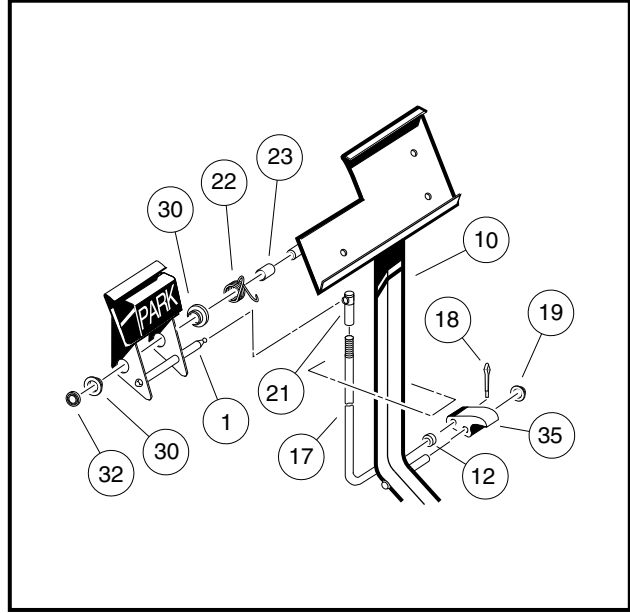
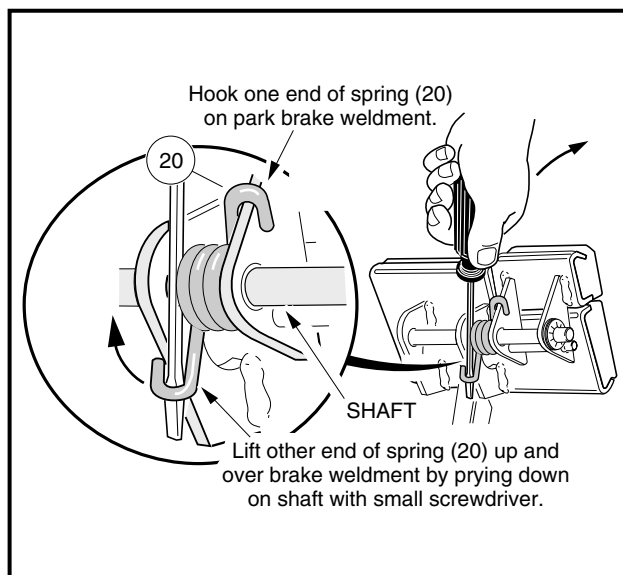

Figure 5-4 Park Brake Assembly
Figure 5-5 Torsion Spring Installation
NOTE: *New push nuts (19) and (32) must be used when reassembling the park brake (Figure 5-4, Page 5-6).*
- 3.2. To remove the park brake pedal (1), remove the push retainer nut (32), disconnect the torsion spring (22) (**Figure 5-4, Page 5-6**) and slide the pedal off of the shaft. **See preceding NOTE.**
1. From the bottom side of the floorboard, insert the park brake rod (17) through the brake pedal assembly opening as shown (**Figure 5-4, Page 5-6**). Then install the park brake pawl (35) onto the shaft on the brake pedal assembly (10) and also insert the park brake rod (17) into the park brake pawl.
2. Install the push nut (19) on to the park brake pawl shaft.
3. Install the spacer (23) and torsion spring (22) on the park brake pedal shaft on the brake pedal assembly.
4. Install the two bushings (30) in the park brake pedal and position the park brake pedal on the shaft on the brake pedal assembly weldment (10) (**Figure 5-4, Page 5-6**). Then attach the ends of the torsion spring to the park brake pedal and to the brake pedal weldment as shown (**Figure 5-5, Page 5-7**).
5. Install the push nut (32) on the park brake pedal shaft (**Figure 5-4, Page 5-6**).
6. Connect park brake rod (17) with ball joint (21) to the ball stud on the park brake pedal assembly (**Figure 5-4, Page 5-6**).